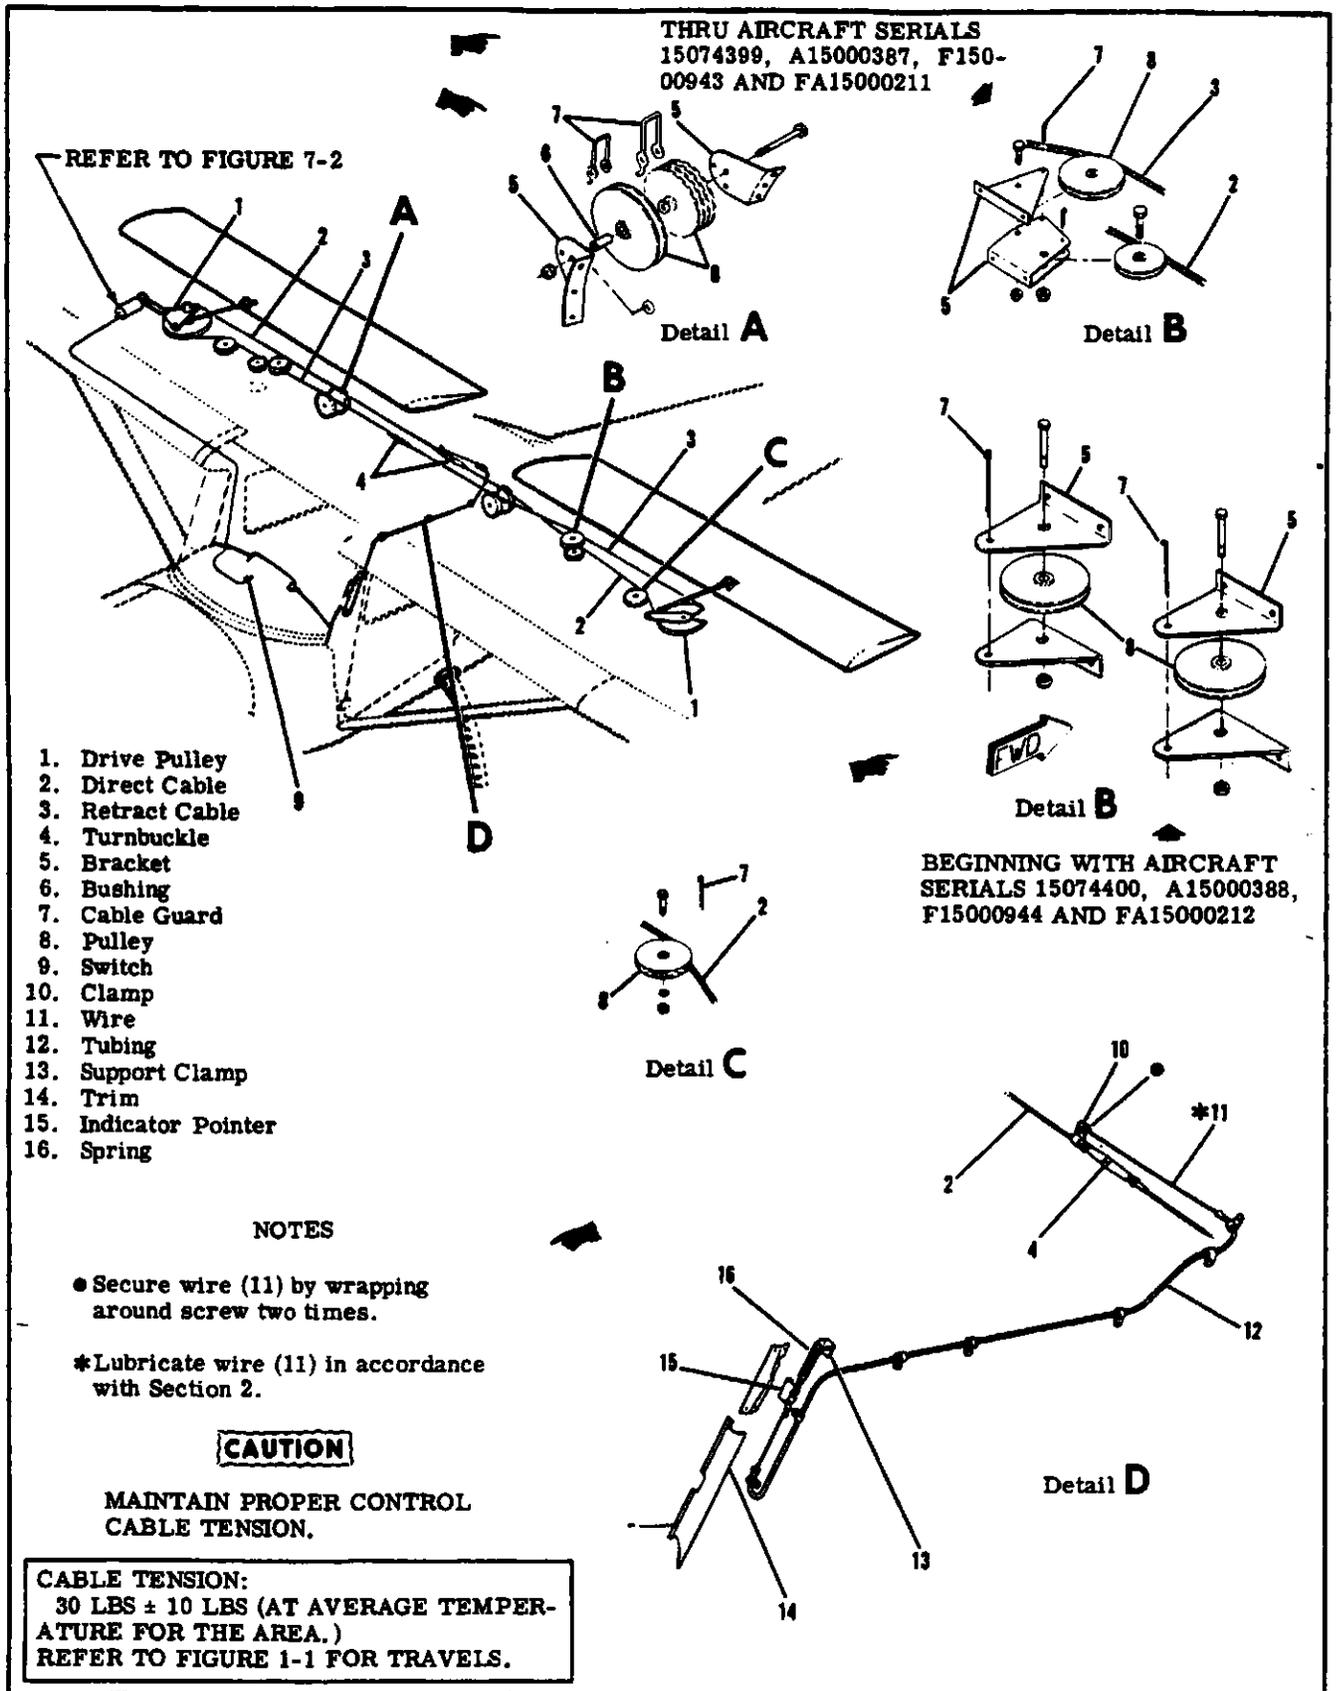

Figure 7-1. Wing Flap Control System
7-1. WING FLAP CONTROL SYSTEM. (Refer to figure 7-1.)
- a. Remove access plate adjacent to drive pulley (14) in right wing.
- b. Unzip or remove headliner as necessary for access to turnbuckles (index 4, figure 7-1), remove safety wire and loosen turnbuckles.
- c. Remove bolt (20) securing flap push-pull rod (15) to drive pulley (14) and lower RIGHT flap gently.
- d. Remove bolt (21) securing actuating tube (5) to drive pulley (14) and lower LEFT flap gently. Retain bushing.
- e. Remove cable locks (13) securing control cables to drive pulley (14). Tag cables for reference on reinstallation.
- f. Remove bolt (12) attaching drive pulley (14) to wing structure.
- b. Remove access plates (1) from top leading edge of flap.
- c. Disconnect push-pull rod (6) at flap bracket (7).
- d. Remove bolts (5) at each flap track. As flap is removed from wing, all washers, rollers and bushings will fall free. Retain these for reinstallation.
- e. Reverse the preceding steps for reinstallation. If push-pull rod (6) adjustment is not disturbed, re-rigging of system should not be necessary. Check flap travel and rig in accordance with paragraph 7-16, if necessary.
**7-14. CABLES AND PULLEYS.** (Refer to figure 7-1.)
- b. If the direct cable (2) is to be removed, disconnect clamp (10) and slowly release indicator wire (11) until spring (16) tension is relieved.
- c. Remove safety wire, relieve cable tension, disconnect turnbuckles (4) and carefully lower LEFT flap.
- a. (Refer to figure 7-1.) Unzip or remove headliner as necessary for access to turnbuckles (4).
- b. Disconnect indicator wire clamp (10) and slowly release indicator wire (11) until spring (16) tension is relieved.